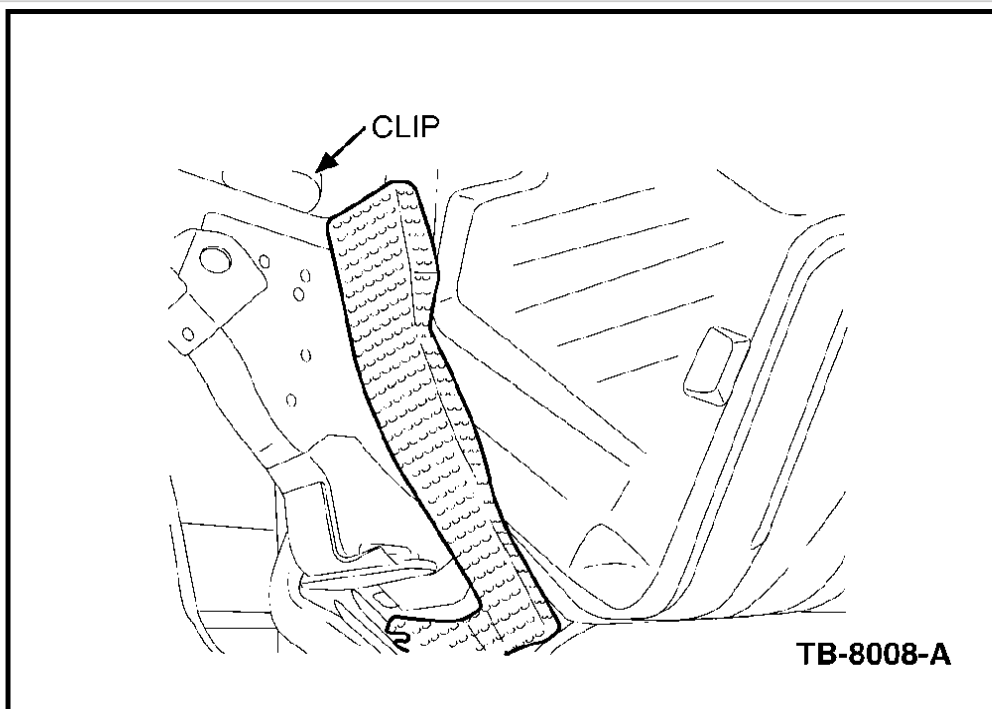

Figure 10
3. Locate the air conditioner condensate discharge tube and install the air conditioner drip shield over it, by installing the clip on the shield over the upper frame rail located just below the air conditioner drier bottle (Figure 10).